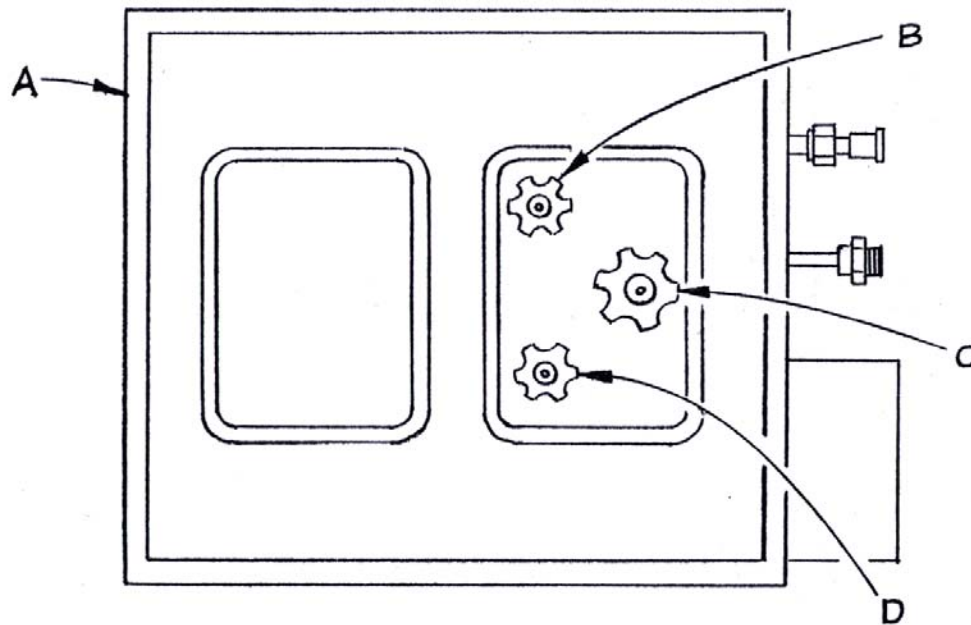

Figure 3-16: Isolation Valves Location
- FEED. Turn each hand valve clockwise to make certain it is closed. (See Figure 3-16.)